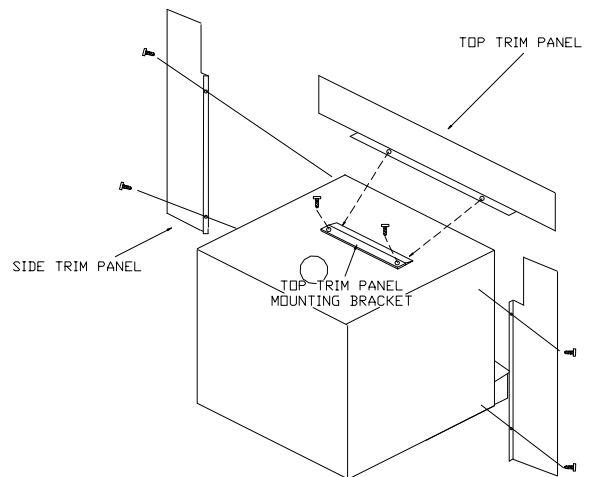

FIGURE 3 MOUNTING TRIM PANELS
1. Place side trim panels in place, flat against face of fireplace. Mark down front edge of trim panel with a pencil to make a vertical reference line. (See Figure 3).
4. Mount side trim panels. (See Figure 3).